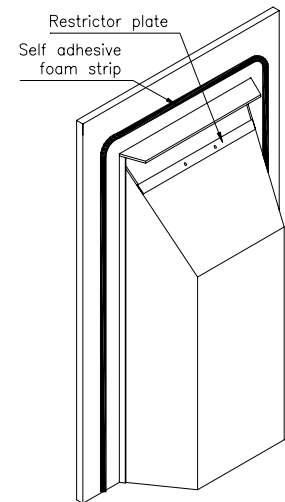
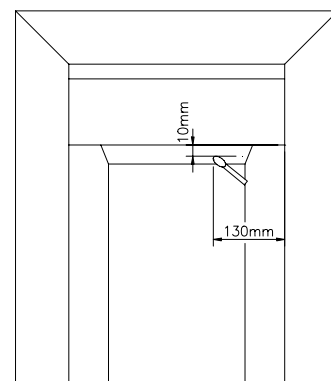

Fig. 3 Fitting the restrictor plate
Fig. 6
1. Fit the restrictor plate using 2 screws provided, as shown in Fig. 3.
2. Secure the self-adhesive foam strip to the back of the sealing flange (Fig. 3)
1. Secure the self-adhesive foam strip to the back of the sealing flange or convection box flange as appropriate (Fig. 3).
3. After approximately 5 minutes place a smoke match 130mm from the right hand side, inside edge of the trim, 10mm below and 10mm within the opening of the fire as shown in Fig. 6. Ensure that the smoke is drawn into the fire aperture. If spillage is detected, operate the fire for a further 10 minutes and repeat the test. If spillage is still detected introduce ventilation into the room by opening a window or door. If spillage is no longer detected then purpose made ventilation with a minimum area of 100 sq.cm must be provided. If after introducing ventilation into the room spillage is still detected, remove the restrictor plate if fitted (see Fig. 3) and retest for spillage. If spillage is still detected the cause must be discovered and the fault corrected. If the fault cannot be corrected, disconnect the gas supply to the appliance and seek expert advice. Possible causes of spillage are chimney restrictions, or an incorrect cowl or terminal.